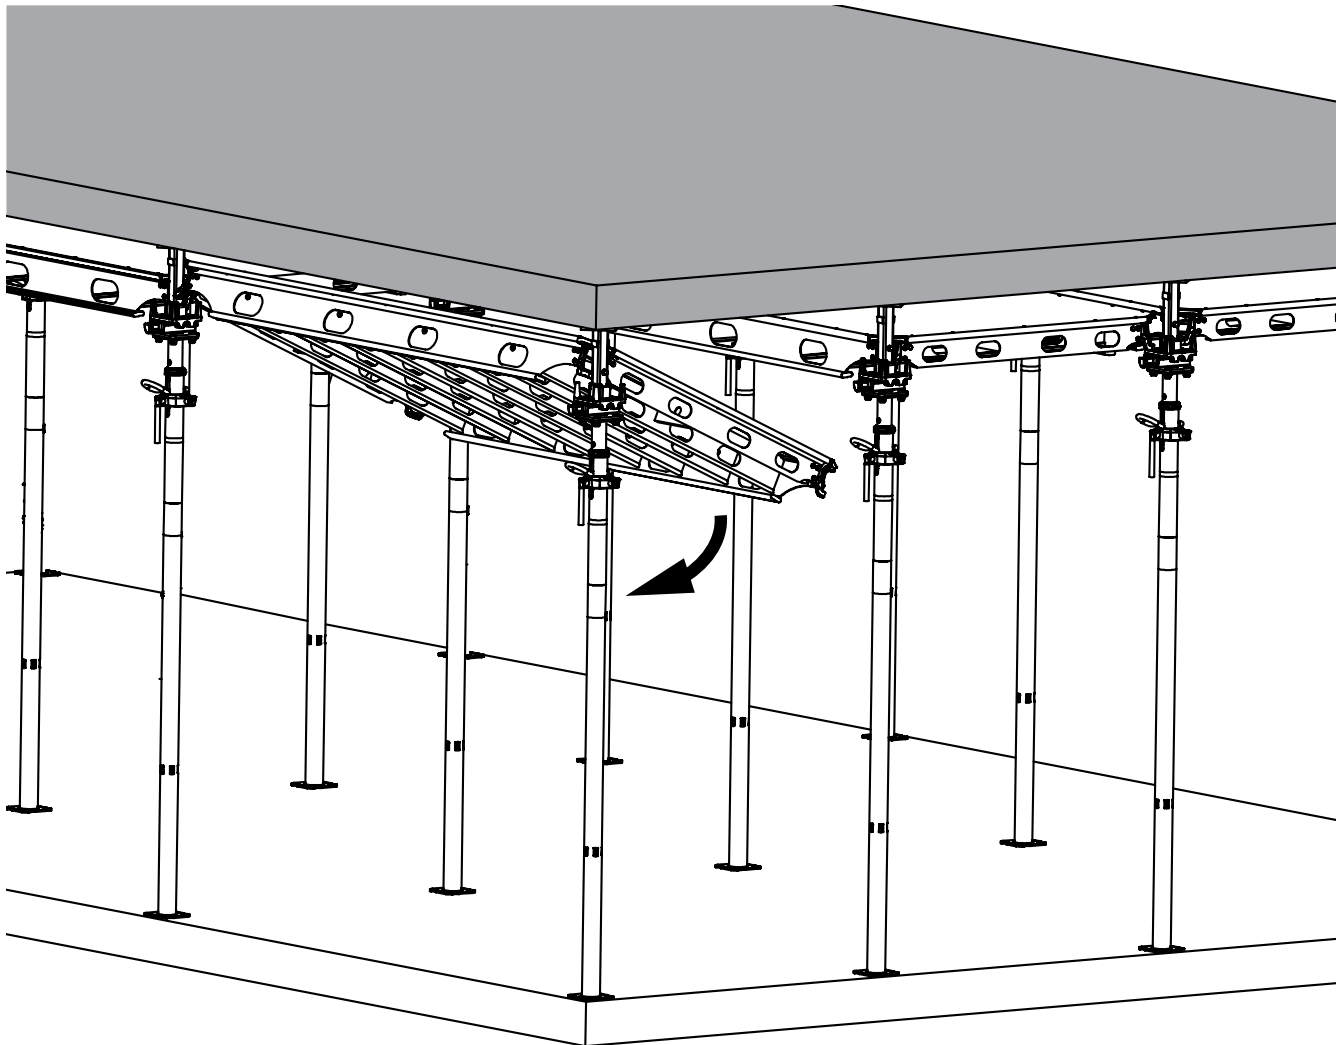

Fig. A11.05
1. Similarly, to remove the panel in shorter direction, lift the panel from fly-plate pin. (Fig. A11.05)